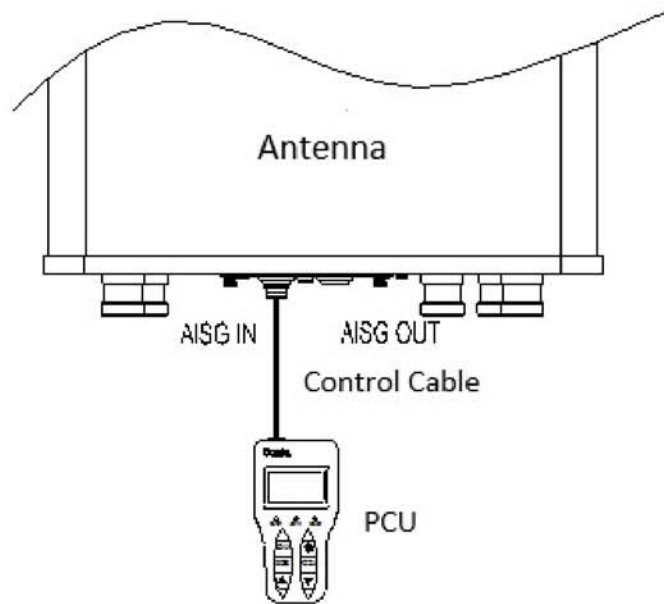

Figure 3-3 AISG Control Cable to PCU
c) Figure 3-3, connect the control cable to the AISG Connector locate at the lower part of the IRCU and tighten the connector.